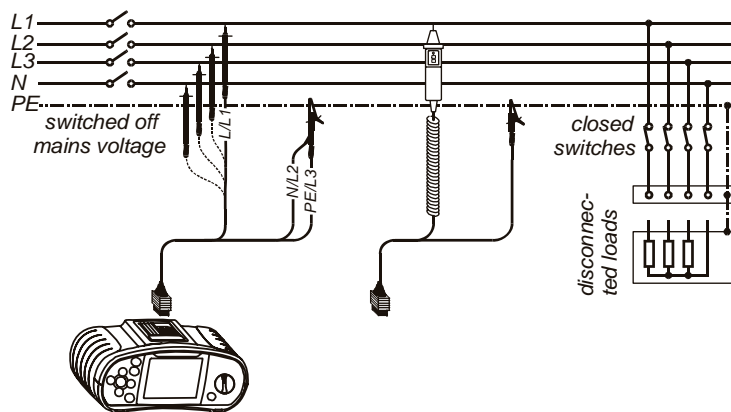

Figure 5.2: Connection of 3-wire test lead and tip commander
Step 3 Connect test cable to the item under test. Follow the connection diagram shown in figure 5.2 to perform insulation resistance measurement. Use the **Help** function if necessary.